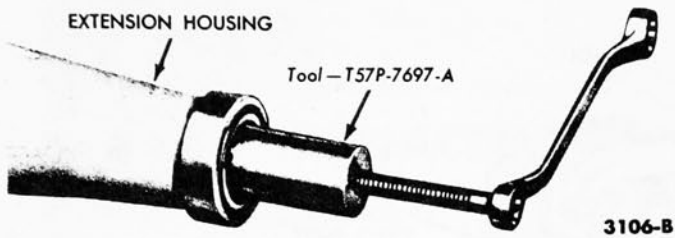
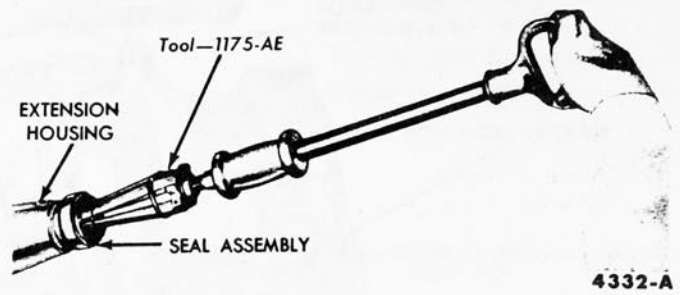

FIG. 3—Extension Housing Bushing and Rear Seal Removal
FIG. 4—Extension Housing Rear Seal Removal
2. Remove the bushing and the rear seal together when the bushing requires replacement (Fig. 3). When only the rear seal needs replacing, remove the rear seal from the extension housing with the tool shown in Fig. 4.